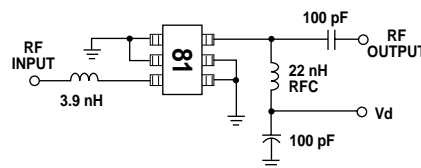
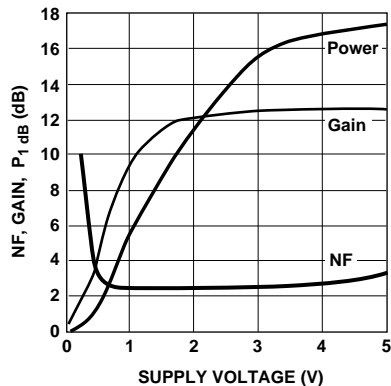

Figure 10. Test Circuit.
**Figure 19. Intermodulation Products vs. Input Power. ( $V_d = 3.0$  V)**
1. Guaranteed specifications are 100% tested in the circuit in Figure 10 in the Applications Information section.
The circuit shown in Figure 10 is used for 100% RF testing of Noise Figure and Gain. The 3.9 nH inductor at the input fix-tunes the circuit to 2 GHz. The only purpose of the RFC at the output is to apply DC bias to the device under test. Tests in this circuit are used to guarantee the  $NF_{test}$  and  $G_{test}$  parameters shown in the table of Electrical Specifications.
Like other active devices, the intermodulation products of the MGA-81563 increase as the device is driven further into nonlinear operation. The 3rd, 5th, and 7th order intermodulation products of the MGA-81563 are shown in Figure 19 along with the fundamental response. This data was measured in the test circuit in Figure 10.